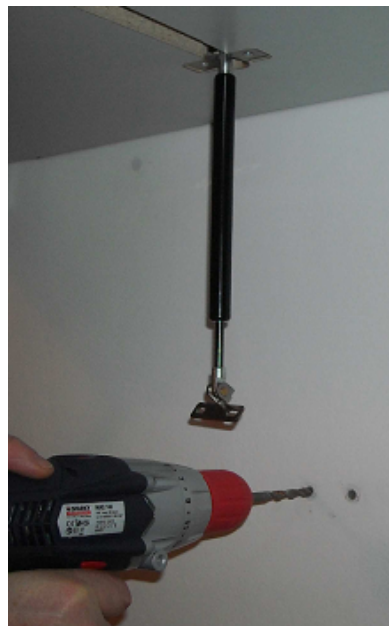

Fig. 5
6. Drill the holes using a 8mm bit (Fig. 5).